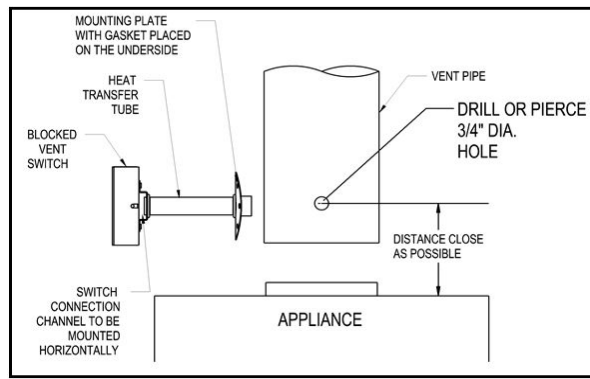

Figure 18
1. Drill or pierce a clean hole ($3/4 \pm 1/32$ " diameter) in the vent pipe near the appliance vent outlet. (See Figure 18)